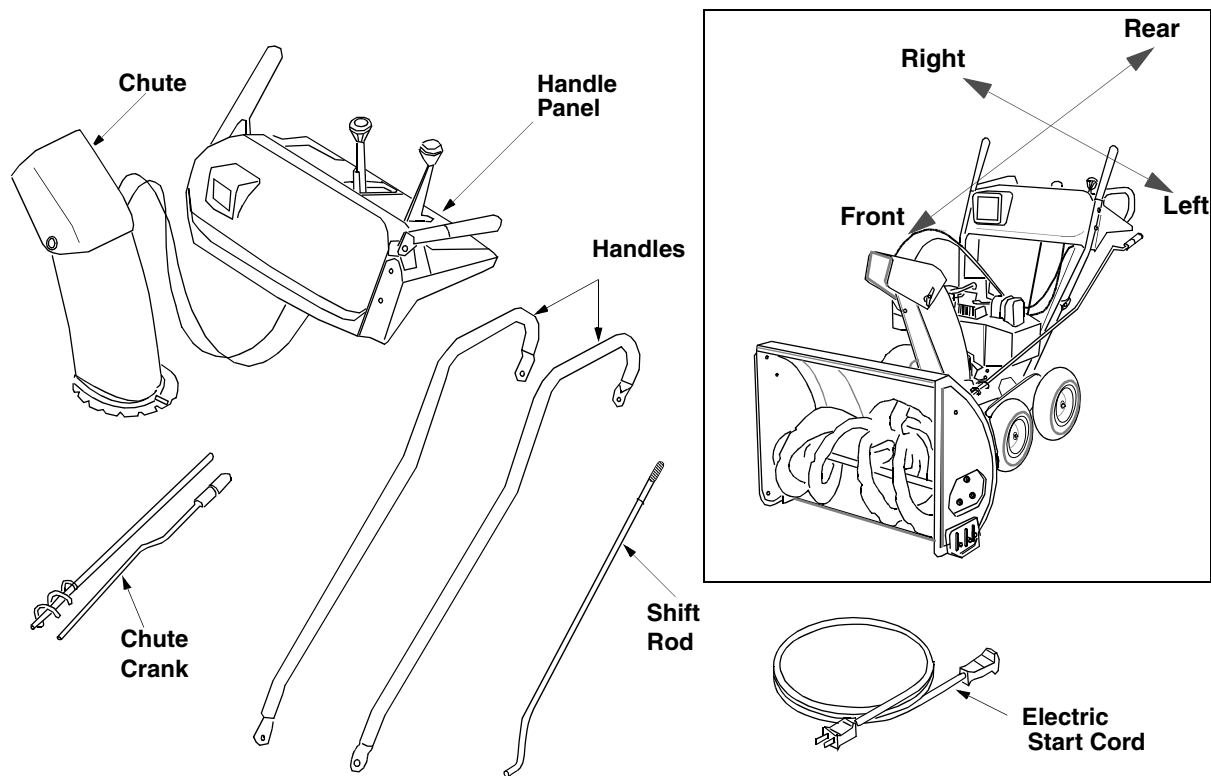

Figure 1
**NOTE:** To determine right and left hand sides of your snow thrower, stand behind the unit in the operating position. See Figure 1 inset.
(See Figure 1.)